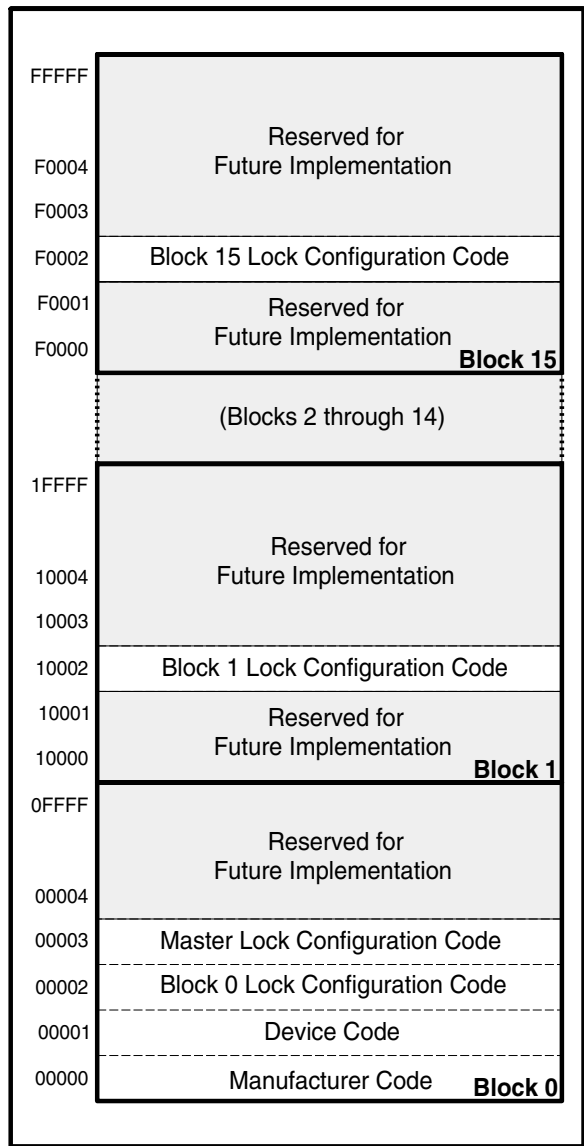

Figure 4. Device Identifier Code Memory Map
The read identifier codes operation outputs the manufacturer code, device code, block lock configuration codes for each block, and the master lock configuration code (see Figure 4). Using the manufacturer and device codes, the system CPU can automatically match the device with its proper algorithms. The block lock and master lock configuration codes identify locked and unlocked blocks and master lock-bit setting.
IA=Identifier Code Address: see Figure 4.
The identifier code operation is initiated by writing the Read Identifier Codes command. Following the command write, read cycles from addresses shown in Figure 4 retrieve the manufacturer, device, block lock configuration and master lock configuration codes (see Table 5 for identifier code values). To terminate the operation, write another valid command. Like the Read Array command, the Read Identifier Codes command functions independently of the  $V_{PP}$  voltage and  $RP\#$  can be  $V_{IH}$  or  $V_{HH}$ . Following the Read Identifier Codes command, the following information can be read:
1. X selects the specific block lock configuration code to be read. See Figure 4 for the device identifier code memory map.